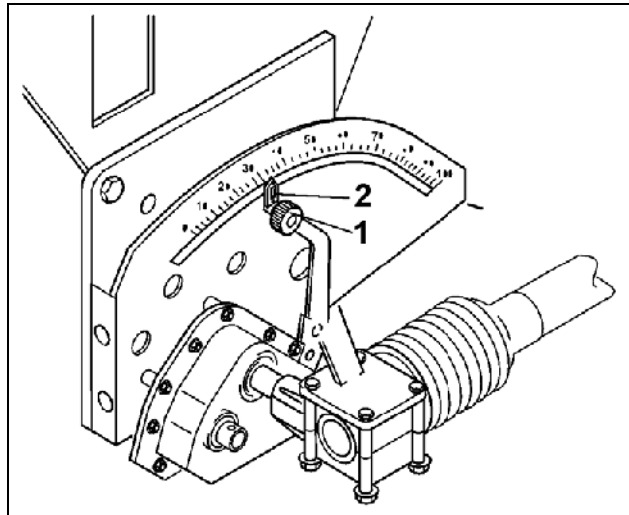

Fig. 82
- Slacken the star knob (Fig. 82/1) of the gearbox setting lever.
- Move the gearbox setting lever (Fig. 82/2) to one of the following gearbox settings:
- Tighten star knob (Fig. 82/1).